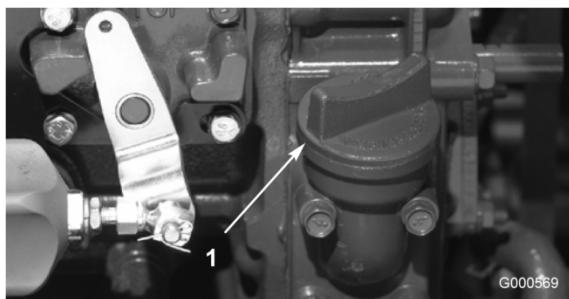

Figure 12
4. If the oil is below the FULL mark, remove the fill cap (Figure 12) and add oil until the level reaches the FULL mark. **Do not overfill.**